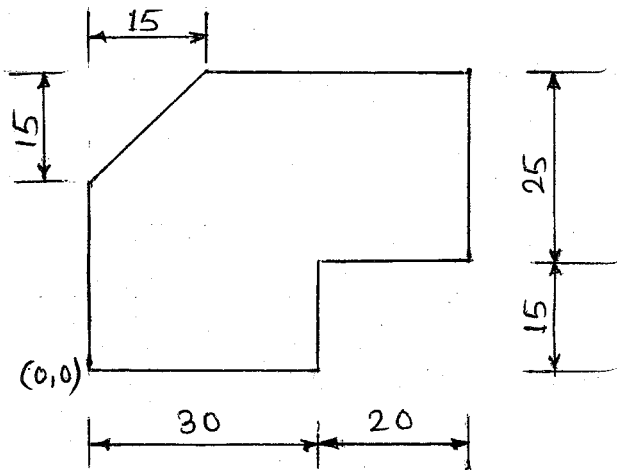

Fig. No. 1.
- a) Prepare a part programme to machine the work piece as shown in the Figure No. 1 on CNC Milling.